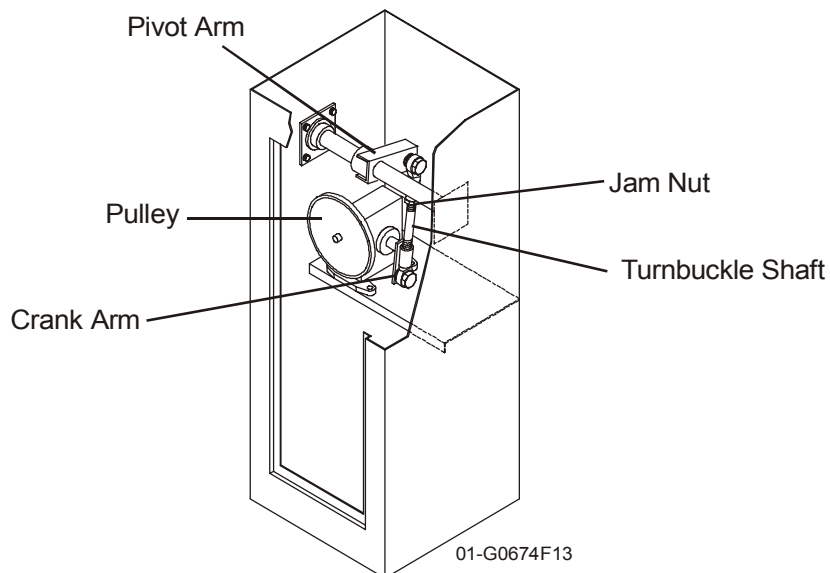

Figure 11: Model BG770
- 1 If necessary, rotate the pulley on the motor by hand until the crank arm on the gear reducer is perfectly aligned with the turnbuckle shaft (see Figure 11). This is the lowest point of the arm travel and should be preset in this position at the factory.